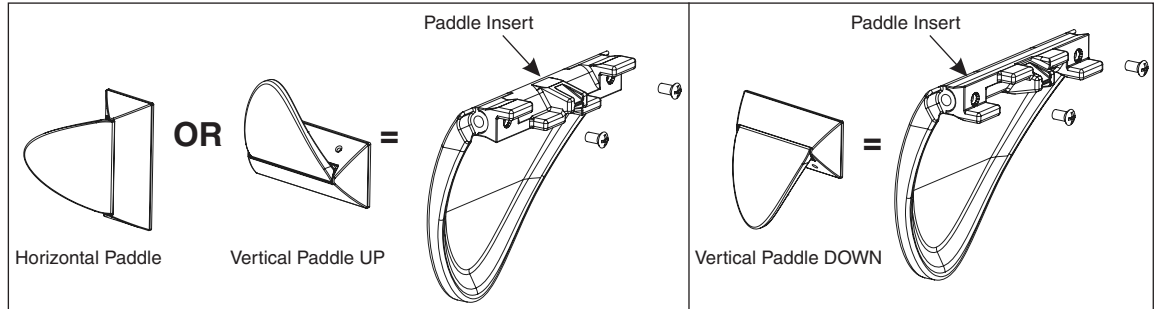

Figure 23
11. Install insert on paddle based on desired paddle orientation. (Figure 23)